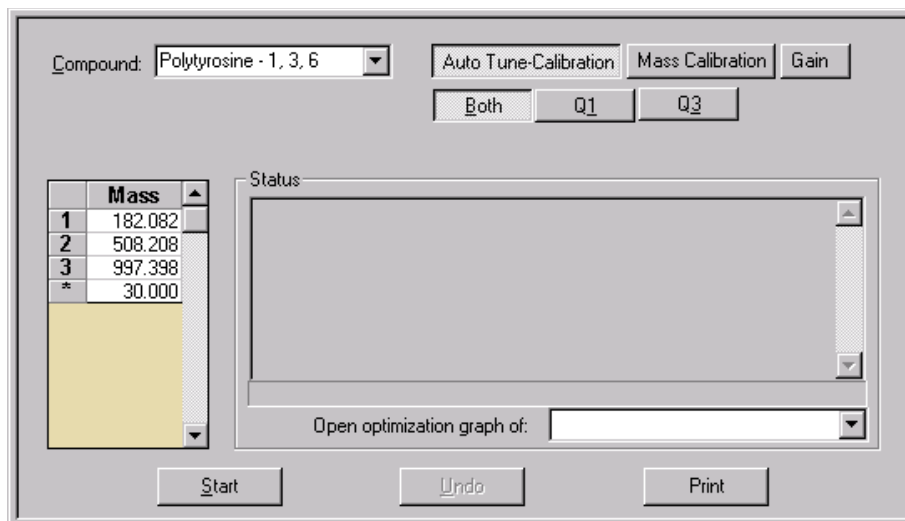

Figure 3-15. System Tune and Calibration view
2. In the System Tune and Calibration view in the top left corner of the workspace, select *Polytyrosine – 1, 3, 6* from the Compound list box. This automatically selects the three positively-charged polytyrosine ions to be used for automatic tuning and calibrating. See Figure 3-15.